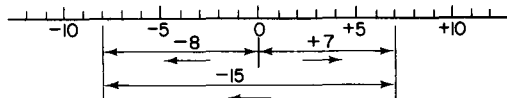

Fig. 1.17
2. To find the value of  $+7-15$ . Measure 7 units to the right of 0 to represent  $+7$ . From this point measure 15 units to left to represent  $-15$ . The final position is 8 units to the left of 0 (Fig. 1.17). Thus,